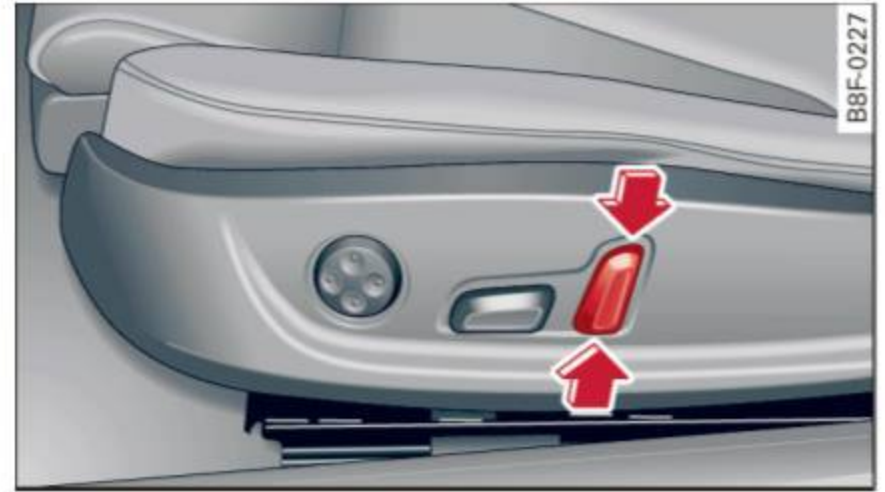

Fig. 56 Front seat: adjusting the power head restraint
- ▶ To adjust the height of the power head restraint*, press the button up/down ⇒ *fig. 56*.